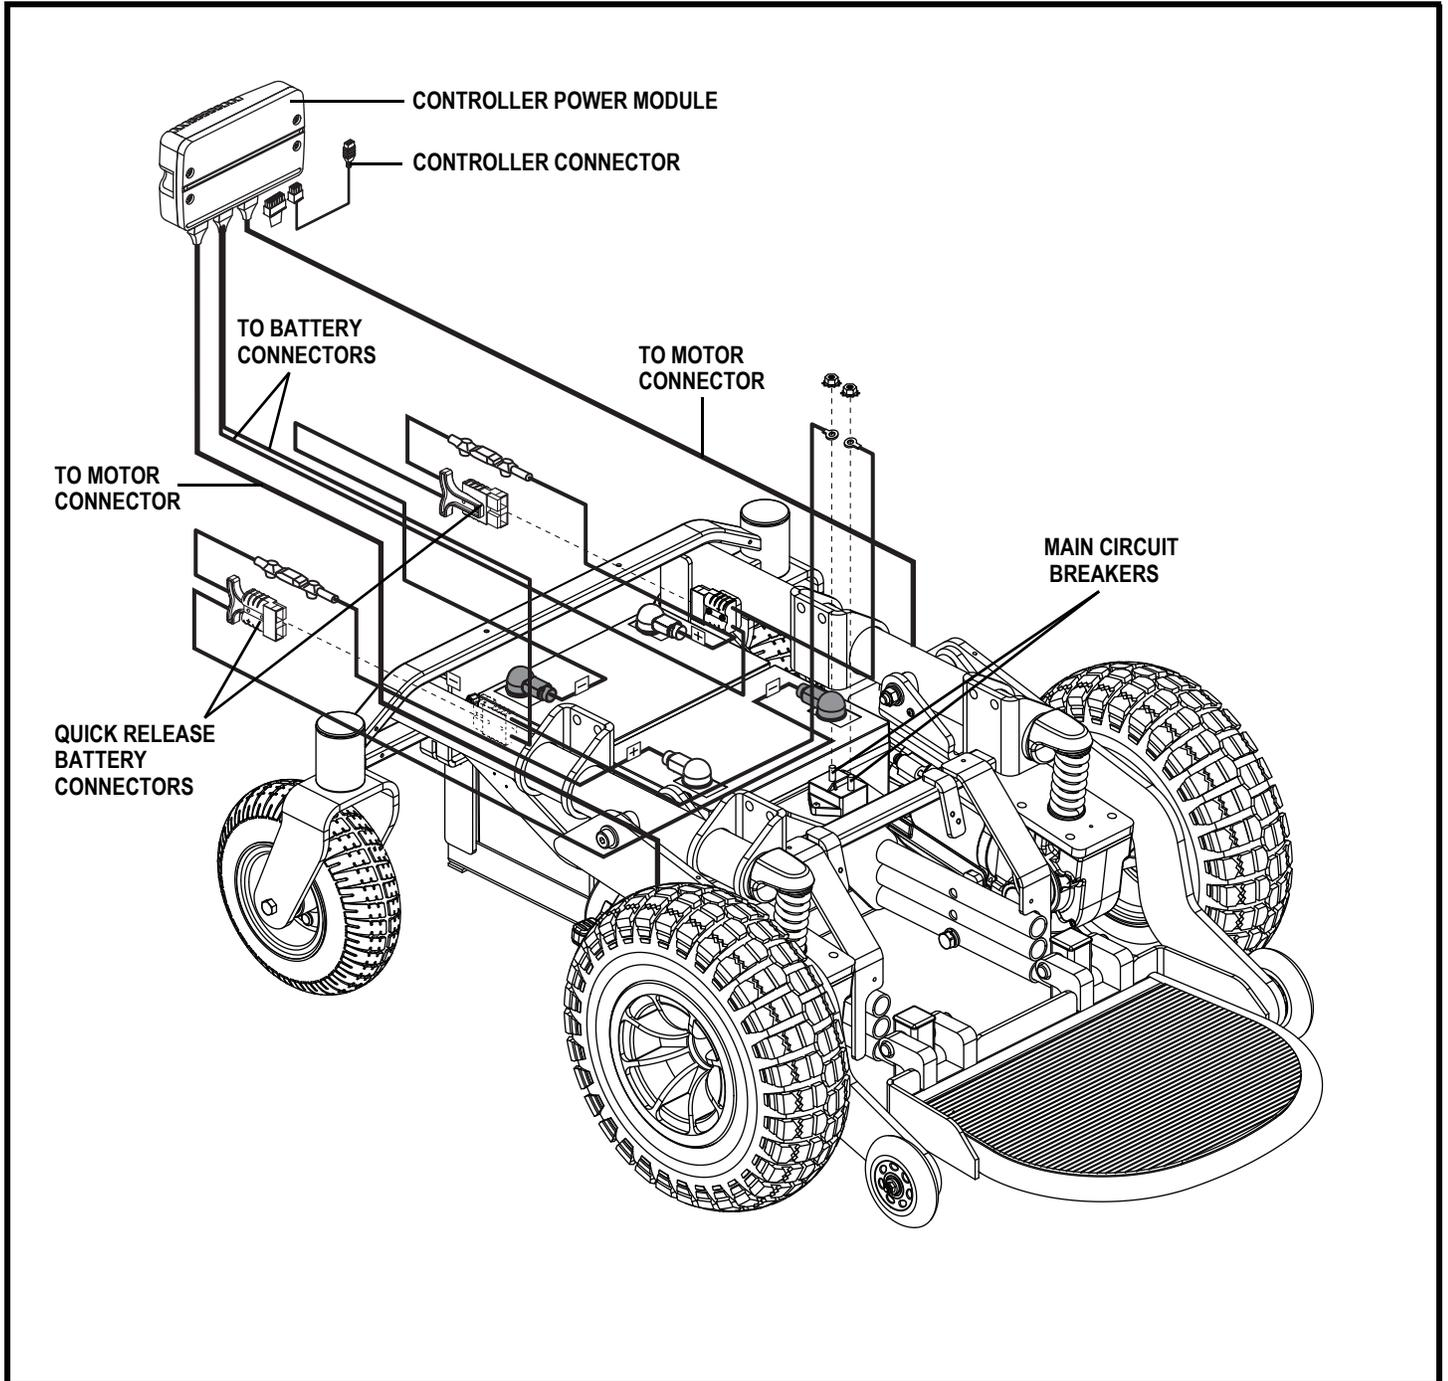

Figure 3. Quantum/Jazzy 1450 Series Electrical Components
The electrical components consist of the controller assembly, the batteries, and the motors. The batteries, motors, and controller power module (if equipped) are located on the power base assembly. The controller is located on the seat assembly. Connectivity between the controller and the motors, batteries, and the battery charger is provided by one or more wiring harnesses. **See figure 3.**
5. Plug the controller connector into the rear of the power base. See figure 3.
3. Unplug the controller connector(s) from the power base. See figure 3.